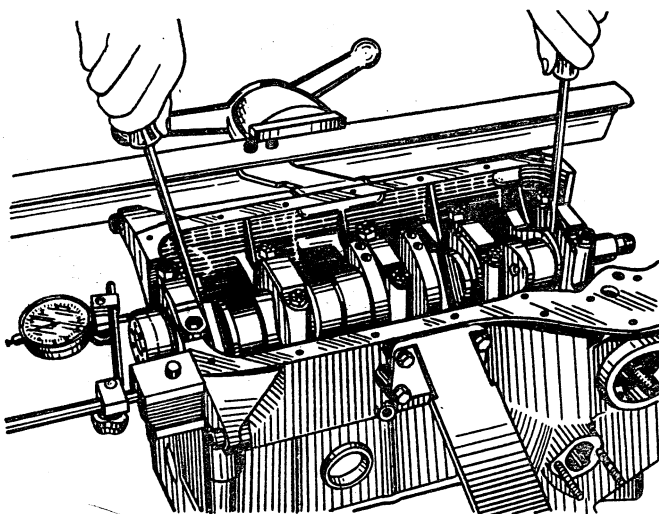

Fig. 2-39. Checking the Crankshaft End Play
- install the indicator on a magnetic support and insert the blades of two screwdrivers as shown in Fig. 2-39;